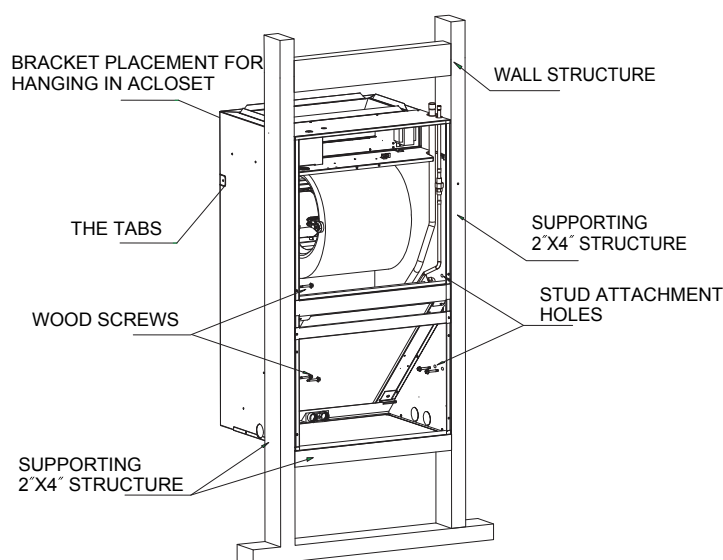

Fig. 3-2 Frame Mount Installation
The air handler comes with 8 clearance holes (4 on each side). These holes are used to mount the air handler inside of a frame structure (see Figure 3-2). When mounting in this fashion, make sure that the wood screws are mounted from within the air handler and not from outside the unit in order to avoid damaging the coil. If the frame does not provide support in the front of the unit and additional support is needed, open up the tabs and fix the unit to the frame or other support structure with screws. Select a solid and level site to ensure proper installation of the frame mount. Verify that there is sufficient space for installation and maintenance. (see Figure. 3-2)
IMPORTANT: The (8) wood screws are not provided with the unit. #12 x 1 1/2" wood screws are recommended. When the unit is installed on a wood frame, the screws should be used to fix the unit to the studs. If they are not used, the unit may fall down or cause other damage. See Figure 3-2 for frame mount installation.